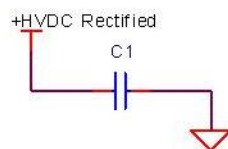

FIGURE 11
12) Another way of connecting a small value high voltage non-polar capacitor to output ground is to link it with input high voltage rectified DC +HVDC (Figure 11).